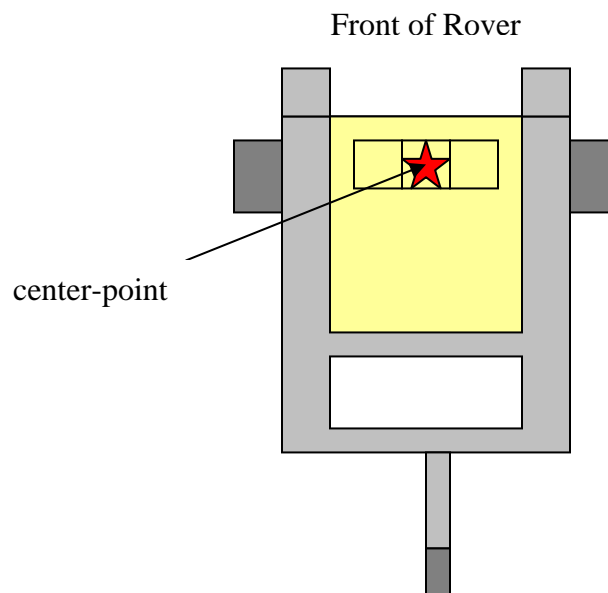

Figure 2 – Rover Orientation
8. The center-point of the rover shall remain on the grid, where the center-point is defined as the center of the front axel (see figure 2).